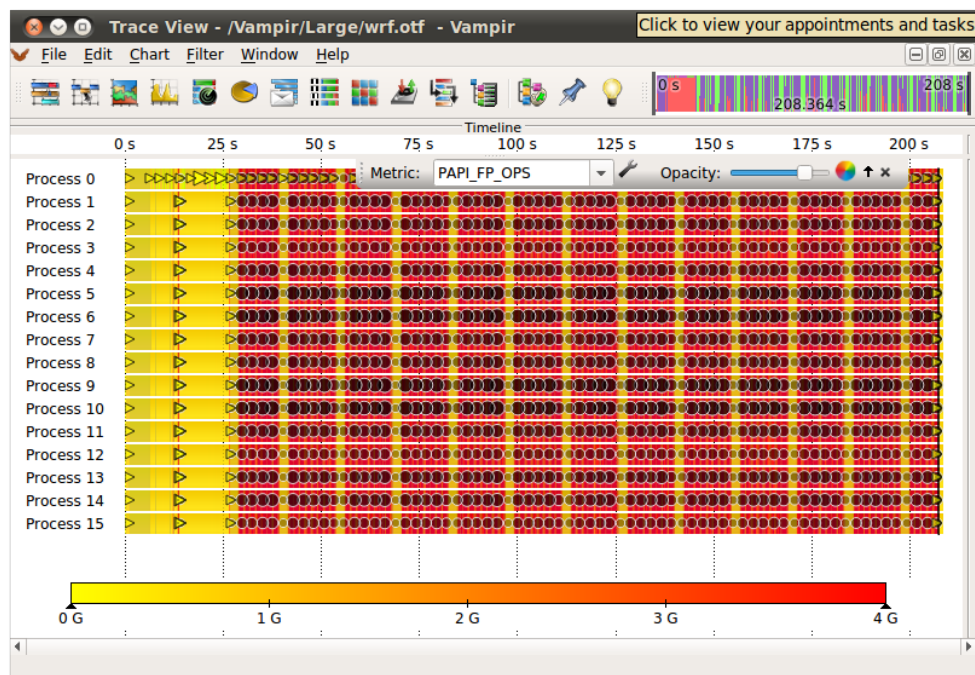

Figure 4.5: Active overlay showing PAPI\_FP\_OPS in the Master Timeline
**Performance Counter Data Overlay** The *Master Timeline* also features an overlay mode for performance counter data, Figure 4.5. In order to activate the overlay mode use the context menu *Options* → *Performance Data*. When the overlay mode is active a control window appears at the top of *Master Timeline*. It allows to select the displayed counter data (metric). The counter data is displayed in a color coded fashion like in the *Performance Radar*, Section 4.1.4. The color scale can be freely customized by clicking on the wrench icon. The control window also provides an opacity control slider. This slider allows to adjust the opacity of the overlay and thus makes the underlying functions easily visible without the need to disable the overlay mode.